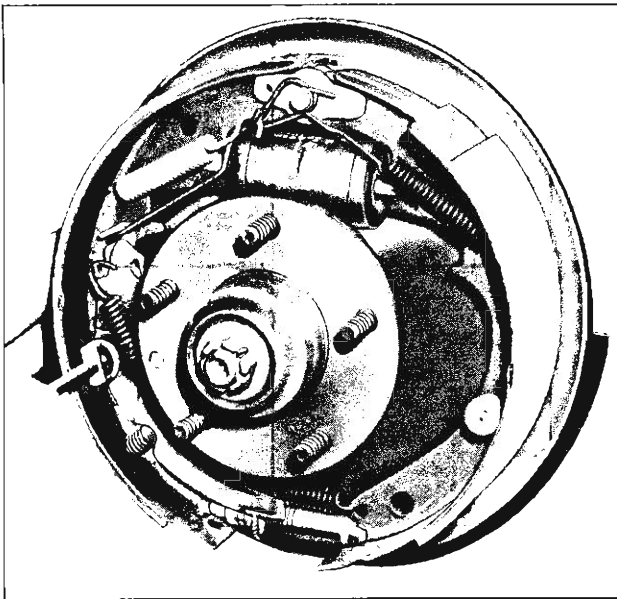

Fig. 19—Removing Hold-Down Springs and Pins
6. Remove hold-down pins and springs (figs. 19).